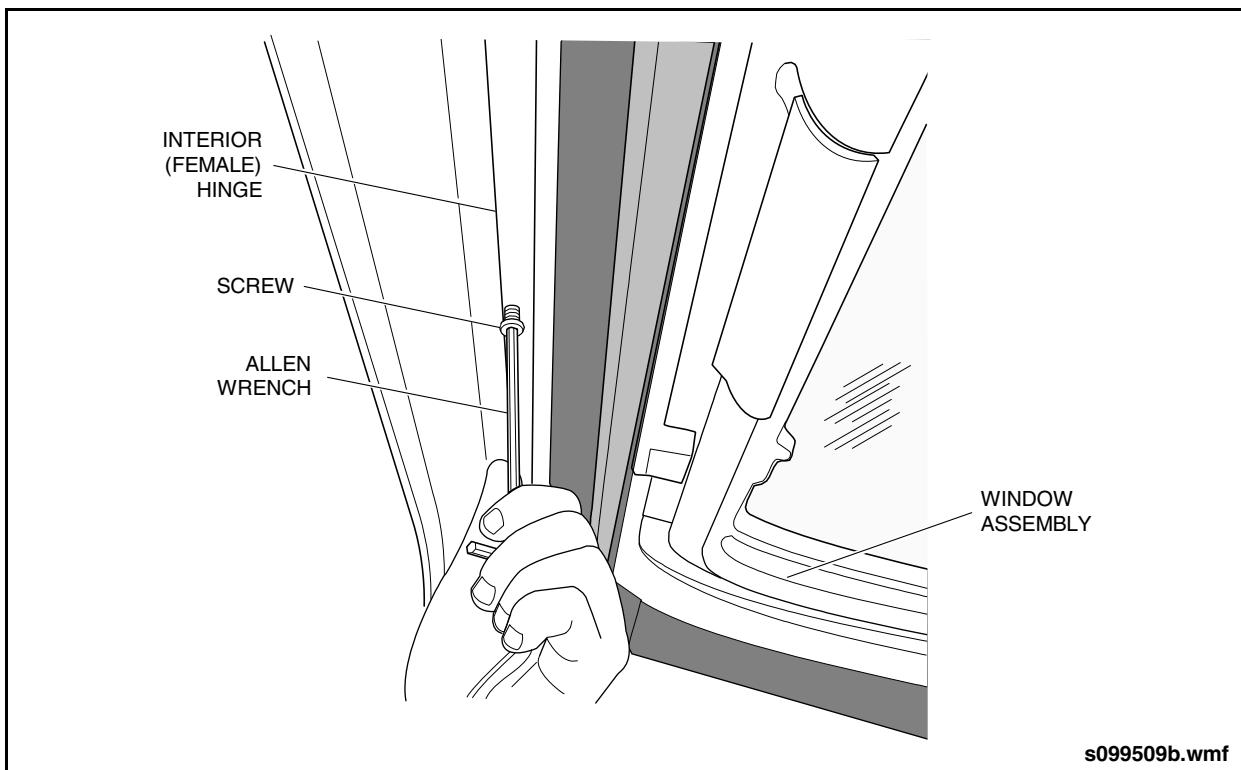

Fig. 14-9: Subframe Screw Removal
1. Remove the centering screw from the female hinge attached to the top of the sub frame. Activate the emergency release handle and open the main frame. Use a prop rod to safety support the window in the open position. Use an Allen wrench to remove the (2) 10 - 24 UNC screws from the underside of the subframe. See "Fig. 14-9: Subframe Screw Removal" on page 12.